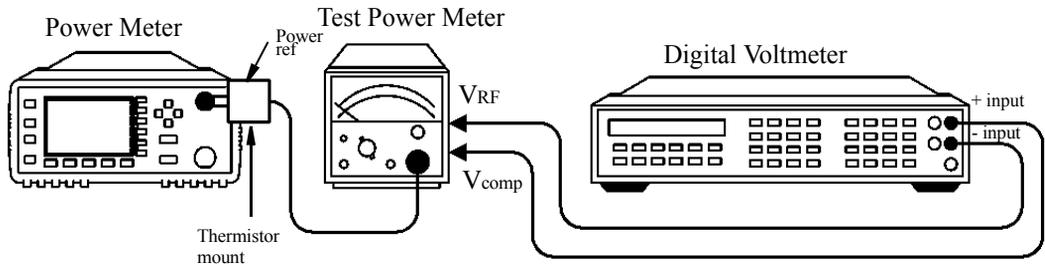

Figure 2-7: Output Standing Wave Ratio Test Setup
9. Connect the equipment as shown in Figure 2-7 ensuring that the DVM input leads are isolated from chassis ground.
- Connect the equipment as shown in Figure 2-7 ensuring that the DVM input leads are isolated from chassis ground.